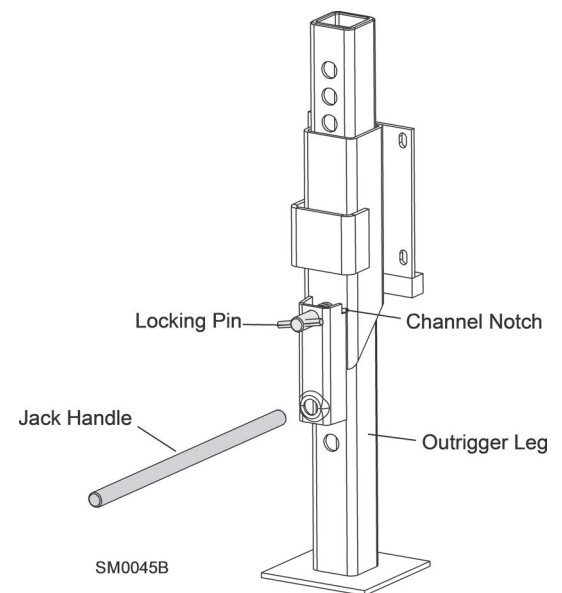

FIG. 3-4
2. Lower and set the front three outriggers. **See Fig. 3-4.**